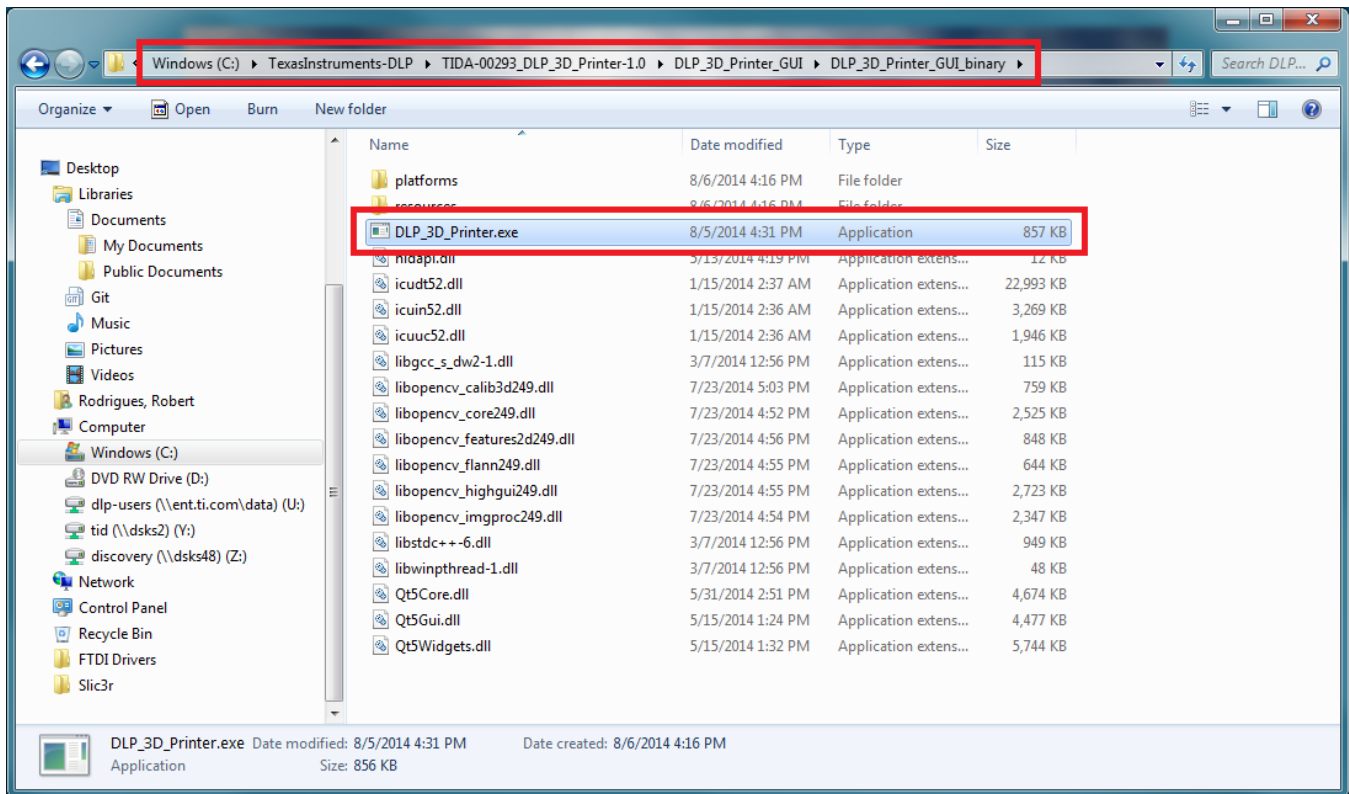

Figure 3-17. Executing The DLP 3D Printer Program
- Start the DLP 3D Printer Reference Design program, installed in Section 2.4, by running the executable file, as shown in Figure 3-17.